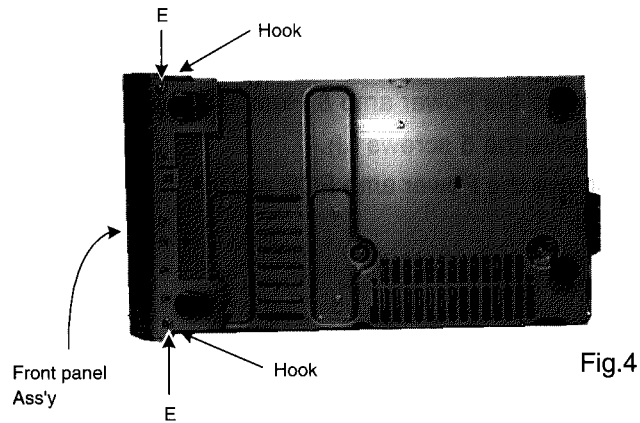

Fig.4
- 1.Remove 2 screws(E)fastening Front panel of the Bottom side (Fig.4).